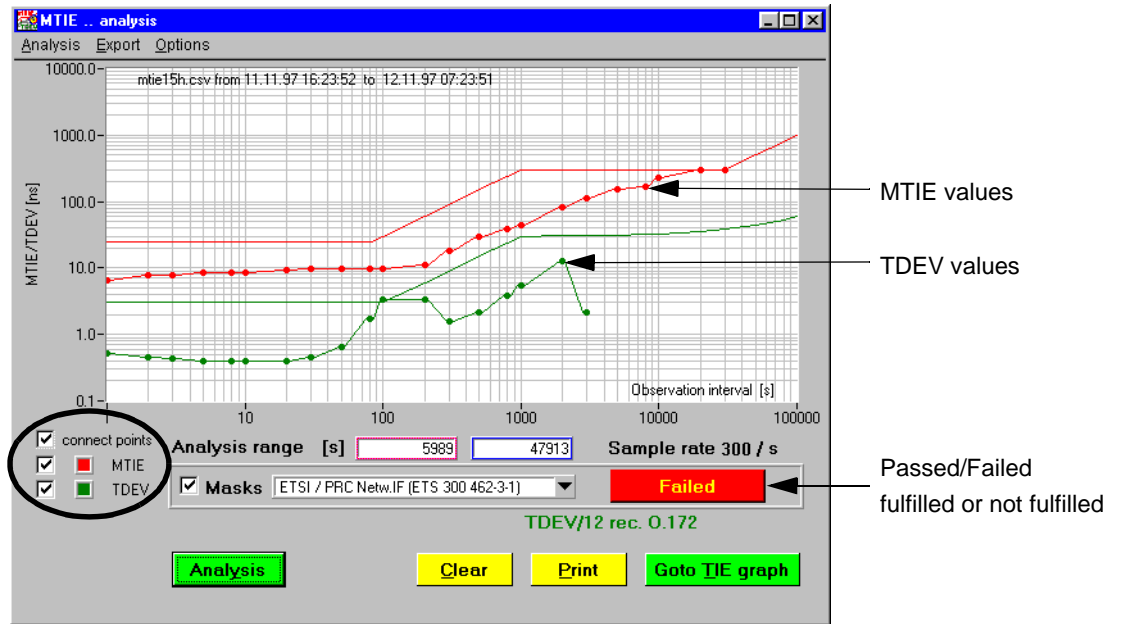

Fig. A-31 MTIE and TDEV analysis
2. Click on the “MTIE/TDEV ...” button. The “MTIE analysis” window opens (see Fig. A-31).
4. Click on the “MTIE/TDEV ...” button. The “MTIE analysis” window opens (see Fig. A-31).